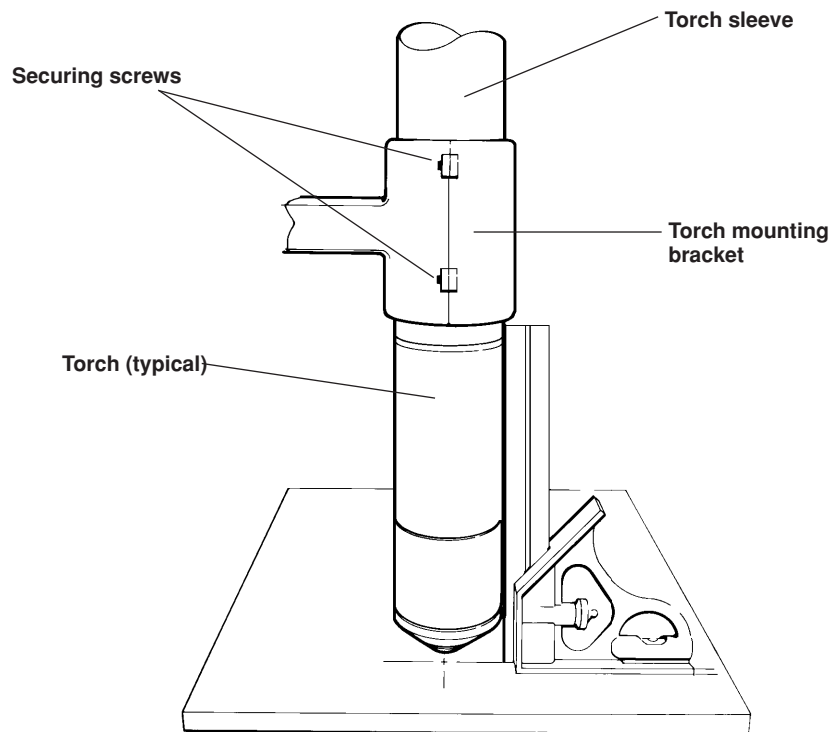

Figure 3-6 Torch Alignment
1. Loosen the securing screws and install the machine torch (with torch leads attached) in the torch mounting bracket. See Figure 3-6.
Prior to cutting with the machine torch, ensure that the torch is at right angles to the workpiece to get a clean, vertical cut. Use a square to align the torch. The torch should be aligned at 0° and 90°. See Figure 3-6.